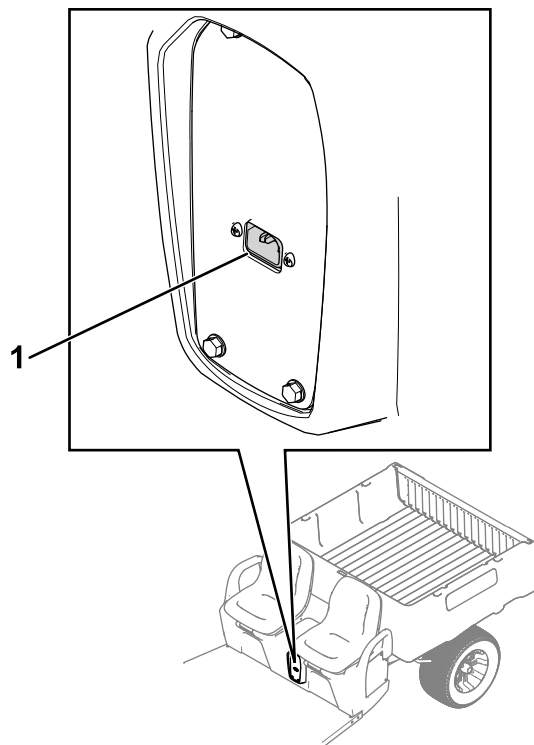

Figure 25
1. Plug the power-supply cord into the machine charger outlet (Figure 25).